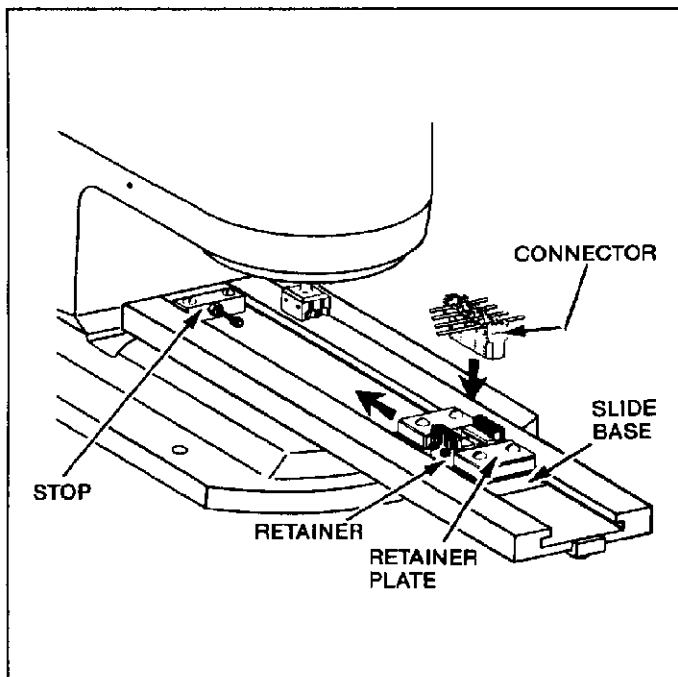

Fig. I-4
retainer plates as shown in Figure I-4. The slotted contact beams should face UP and the lip should be on the left. Otherwise, the wires will not enter the beams.
4. Secure the connector in the retainer, using the retainer plates. See Figure I-4. Then reconnect the air supply.